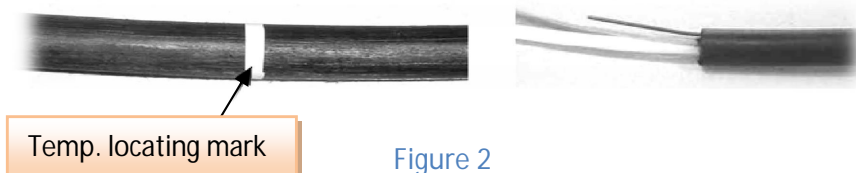

Figure 2
5.3.1 Strip off protective coat of fiber cable from the temp.locating mark with the cutter and the stripper (Figure 2.).